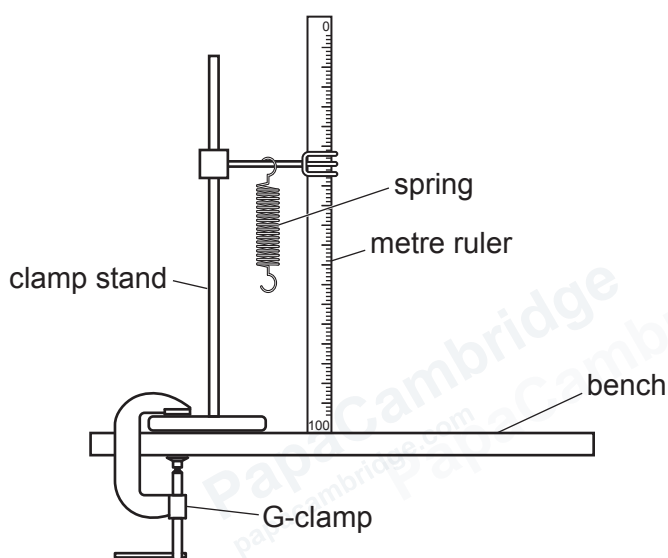

Figure 2.1
2. The apparatus is to be set up for the candidates as shown in Figure 2.1. The spring is to be suspended from the clamp, supported by a boss and stand. The stand should be clamped to the desk to prevent it falling over. A heavy mass placed on the base of the clamp stand is a suitable alternative to a G-clamp. The spring must be sufficiently high above the laboratory bench so that when the 5.0 N load is suspended from the spring, the bottom of the load is above the surface of the bench.
Check that the apparatus is set up ready for the next candidate, as shown in Figure 2.1, with the spring near to the metre ruler.